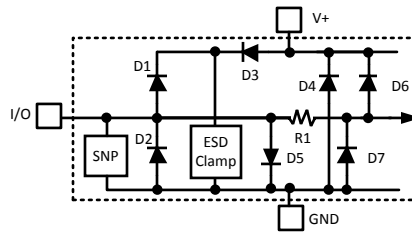

Figure 3. ESD Protection Input Structure
- (1) Absolute Maximum Ratings indicate limits beyond which damage to the device may occur. DC and AC electrical specifications do not apply when operating the device beyond its rated operating conditions.
- (2) When the input voltage ( $V_I$ ) at any pin exceeds the power supplies ( $V_I < GND$  or  $V_I > V_{DD}$ ), the current at that pin should be limited to 5 mA. Parasitic components and or ESD protection circuitry are shown in Figure 3 below for the LM95221's pins. The nominal breakdown voltage of D4 is 6.5 V. Care should be taken not to forward bias the parasitic diode, D1, present on pins: D1+, D2+, D1-, D2-. Doing so by more than 50 mV may corrupt the temperature measurements.
- (3) See the URL "<http://www.ti.com/packaging/>" for other recommendations and methods of soldering surface mount devices.
- (4) Human body model, 100pF discharged through a 1.5kΩ resistor. Machine model, 200pF discharged directly into each pin.